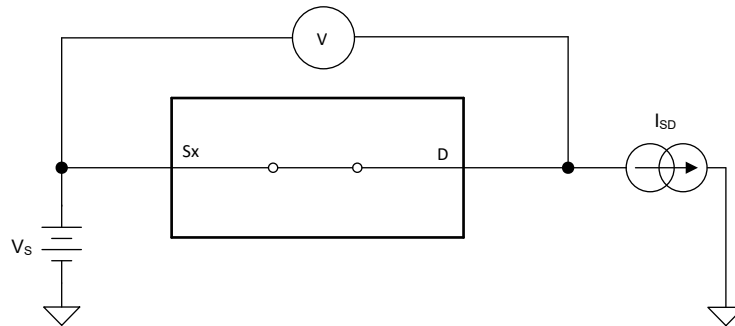

Figure 7. On-Resistance Measurement Setup
The on-resistance of a device is the ohmic resistance between the source (Sx) and drain (D) pins of the device. The on-resistance varies with input voltage and supply voltage. The symbol  $R_{ON}$  is used to denote on-resistance. The measurement setup used to measure  $R_{ON}$  is shown below. Voltage (V) and current ( $I_{SD}$ ) are measured using this setup, and  $R_{ON}$  is computed as shown in Figure 7 with  $R_{ON} = V / I_{SD}$ :